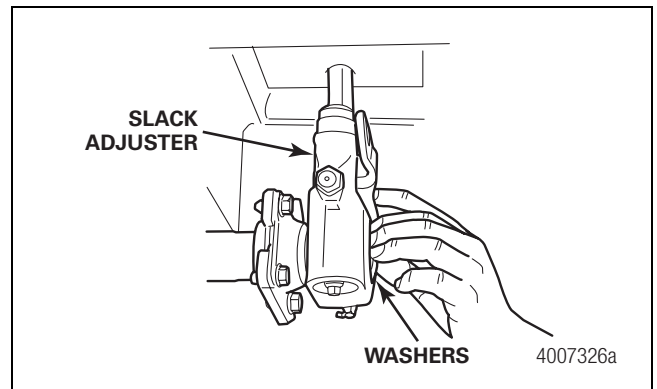

**Figure 38**
3. Install the S-camshaft with the washer through the brake spider and inner S-camshaft bracket. Install the circlip and the washer. Figure 38 and Figure 39.